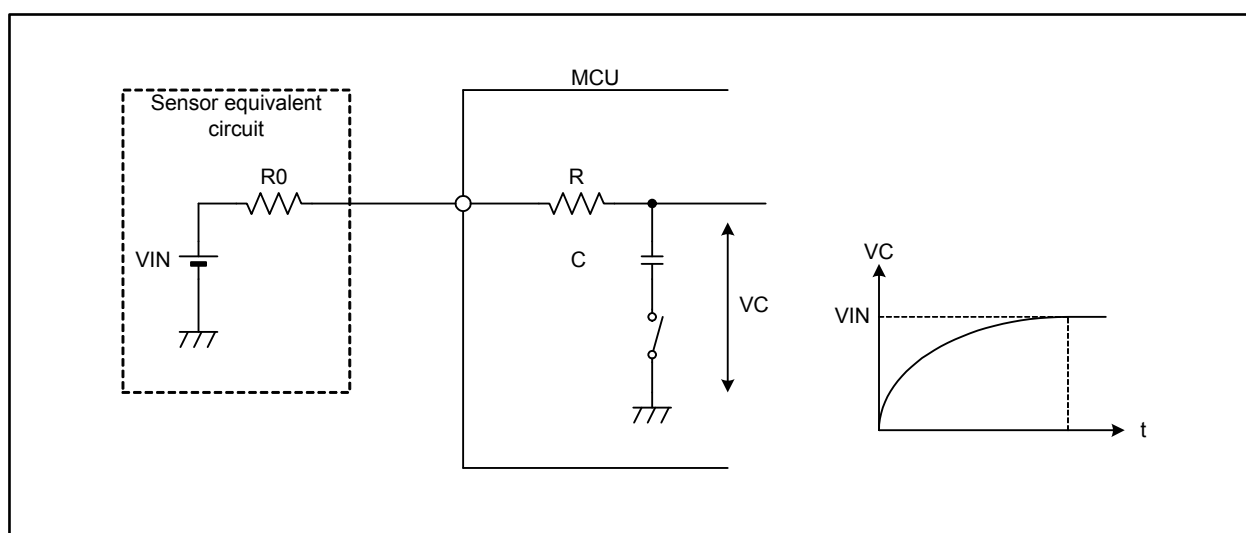

Figure 18.12 Analog Input Pin and External Sensor Equivalent Circuitry
Figure 18.12 shows an analog input pin and external sensor equivalent circuit.
To perform A/D conversion correctly, the internal capacitor (C) charging, shown in Figure 18.12, should be completed within the specified period. This period, called the sampling time, is 2 ϕ AD cycles for conversion without the sample and hold function and 3 ϕ AD cycles for conversion with this function.